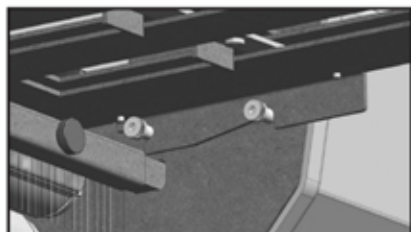

Figure 4: Upper Fold Plate in Proper Position
4. Install Upper Fold Plate and Catch Tray at front of machine and Lower Fold Plate at back of machine. Both should have the smaller numbers going toward the machine and higher numbers going out and away from the machine. Verify both fold plates are properly installed, they should rest snugly on the placement pins (see *Figures 4 & 5*).